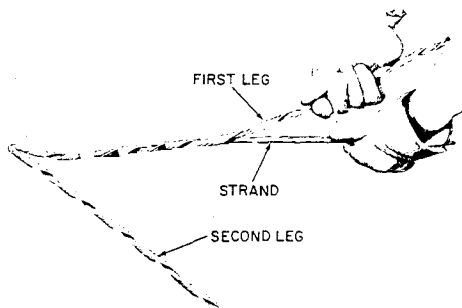

Fig. 8—Applying First Leg
(1) Select the proper size grip for the strand being used. (See Table B.)
- (2) Apply one or two layers of vinyl tape around the cut end of the strand to keep the wires in lay. Avoid excessive taping.
- (3) With thumb pressure, hold taped strand firmly inside one leg of the strand grip extending the end of the strand approximately 1 inch past paint mark A. The starting leg is referred to as the first leg. (If a guy bolt is used as the pole attachment, insert this leg through the eye of the guy bolt.)
- (4) Wrap the first leg around the strand while pulling the strand grip away from the strand with enough force to permit easy application as illustrated in Fig. 8. Make two or three wraps. Do not bend the leg of the strand grip enough to permanently deform it.